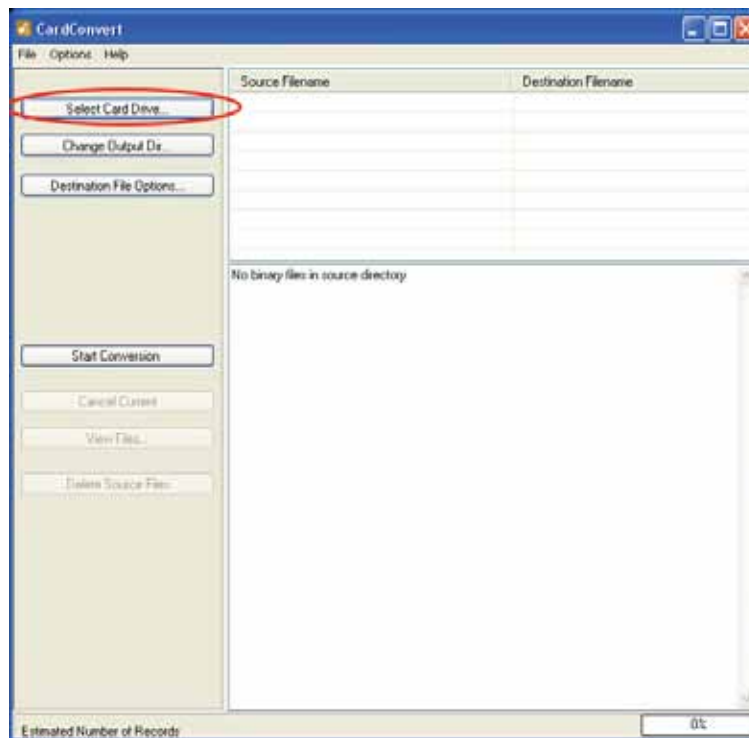

Figure 11. Card Convert window used for converting data logger memory card into a usable file.
- a) From the PC200W **Tools** menu, select **Card Convert**. This will open up the Card Convert Window (see Figure 11).